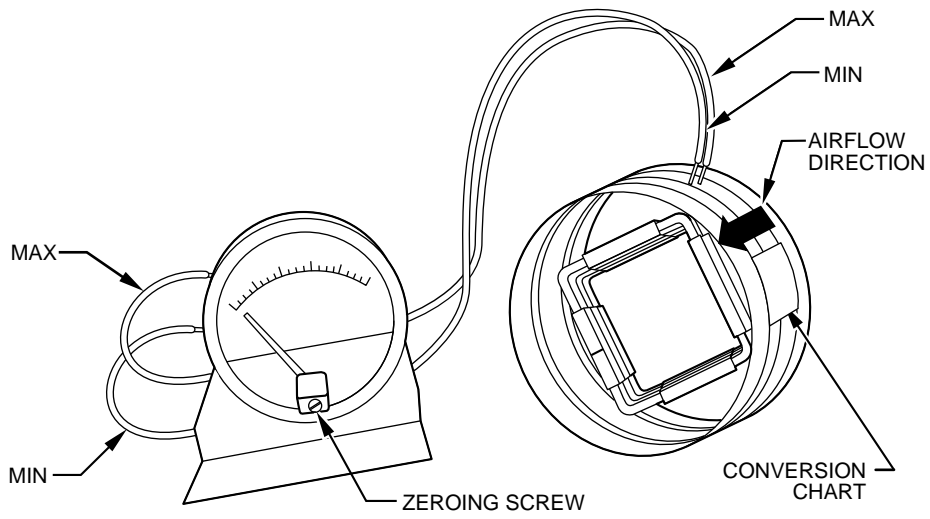

Fig. 29—Magnehelic Gage
2. With the speed control at maximum speed and continuous air exchange with the outside occurring, connect the hoses from the flow collar to a magnehelic gage. (See Fig. 29.) The gage must be leveled and zeroed before use to read accurately. If the needle falls below zero, reverse the hose connections.